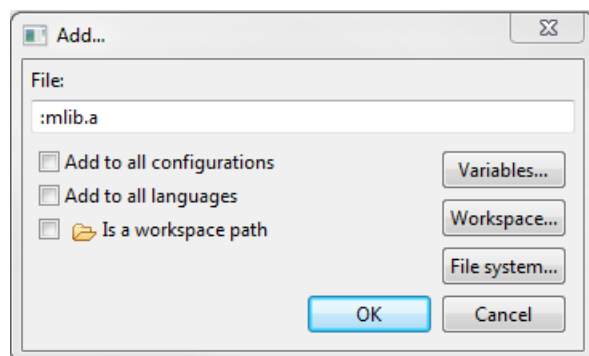

Figure 1-8. Library file inclusion
13. Type the following into the File text box (see Figure 1-8): :mlib.a